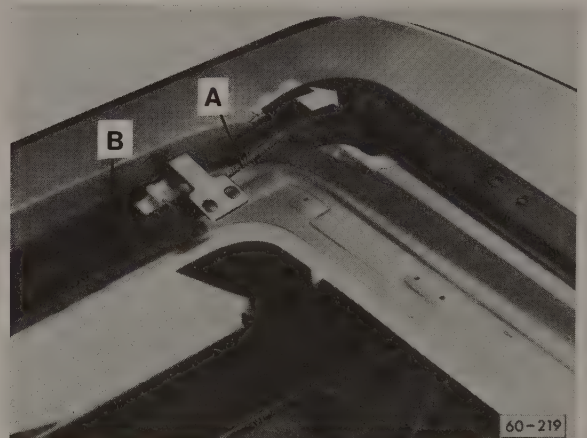

Fig. 7-11. Rear guides with cable assembly (**A**) being removed from guide rails (**B**), in direction of arrow.
4. Pull the cable assembly and the rear guides from the guide rails as shown in Fig. 7-11.